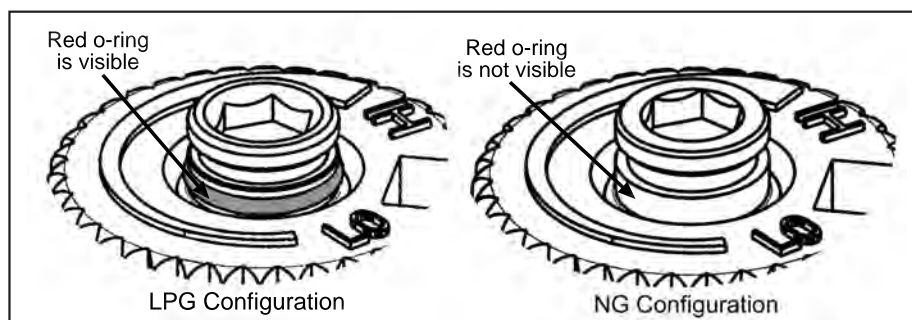

Figure 17: O-ring on valve screw.
- Verify that if the conversion is from NG to LPG, the screw must be re-assembled with the red o-ring visible (refer to Figure 17). If the conversion is from LPG to NG, the red o-ring of the screw must be not visible.